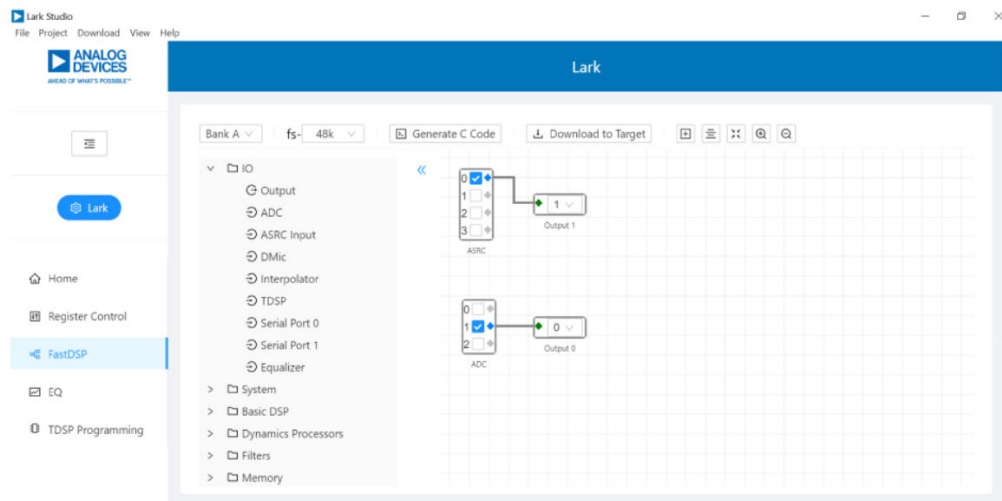

Figure 6. FastDSP Schematic Configuration
3. Select and drag an icon into the schematic window, for example, the **ADC** icon within the **IO** folder (see Figure 6). In this example, AIN1 and ASRC10 are being routed to FastDSP **Output 0** and **Output 1** separately.